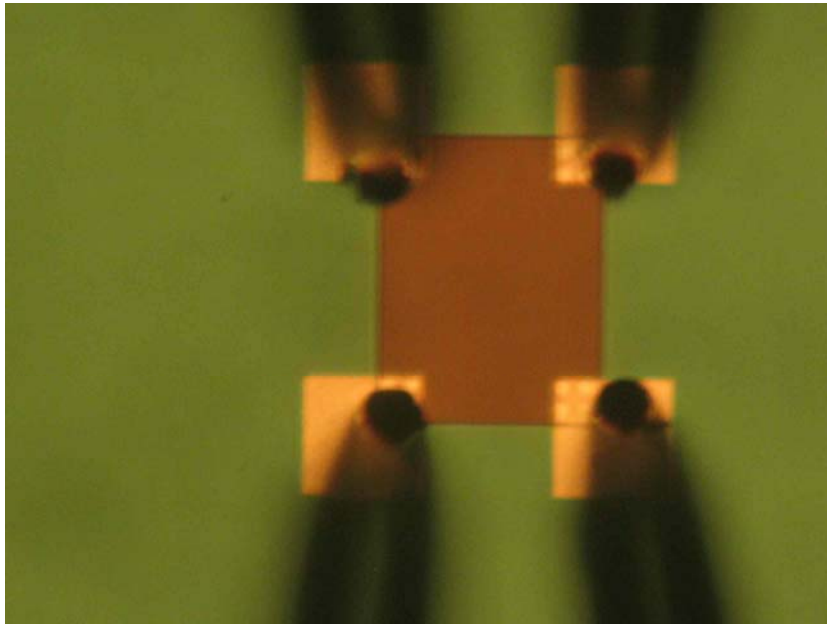

Figure 58: Diffused resistor microscope view
1. Pull the pins on the 4 contacts on the wafer as shown in Figure 58.